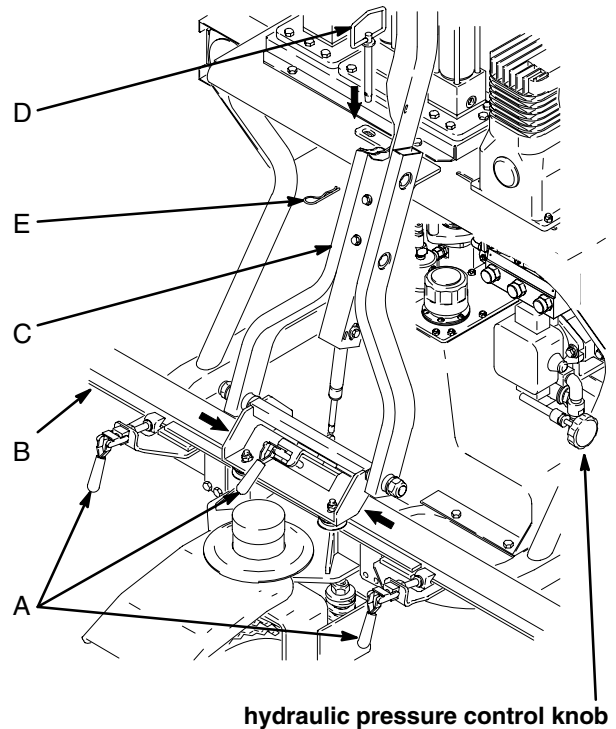

Fig. 9
1. Unlock all three red-handle clamps (A) on main beam.
2. Lift spray gun arm (C) up from ground, and push in to center of RoadLazer. See Fig. 9.
3. Pull gun arm hitch pin (D) out of frame.
5. Put gun arm hitch pin back in frame, and secure with clip (E).
7. Lock three red-handle clamps (A) on main beam (B). See Fig. 9.